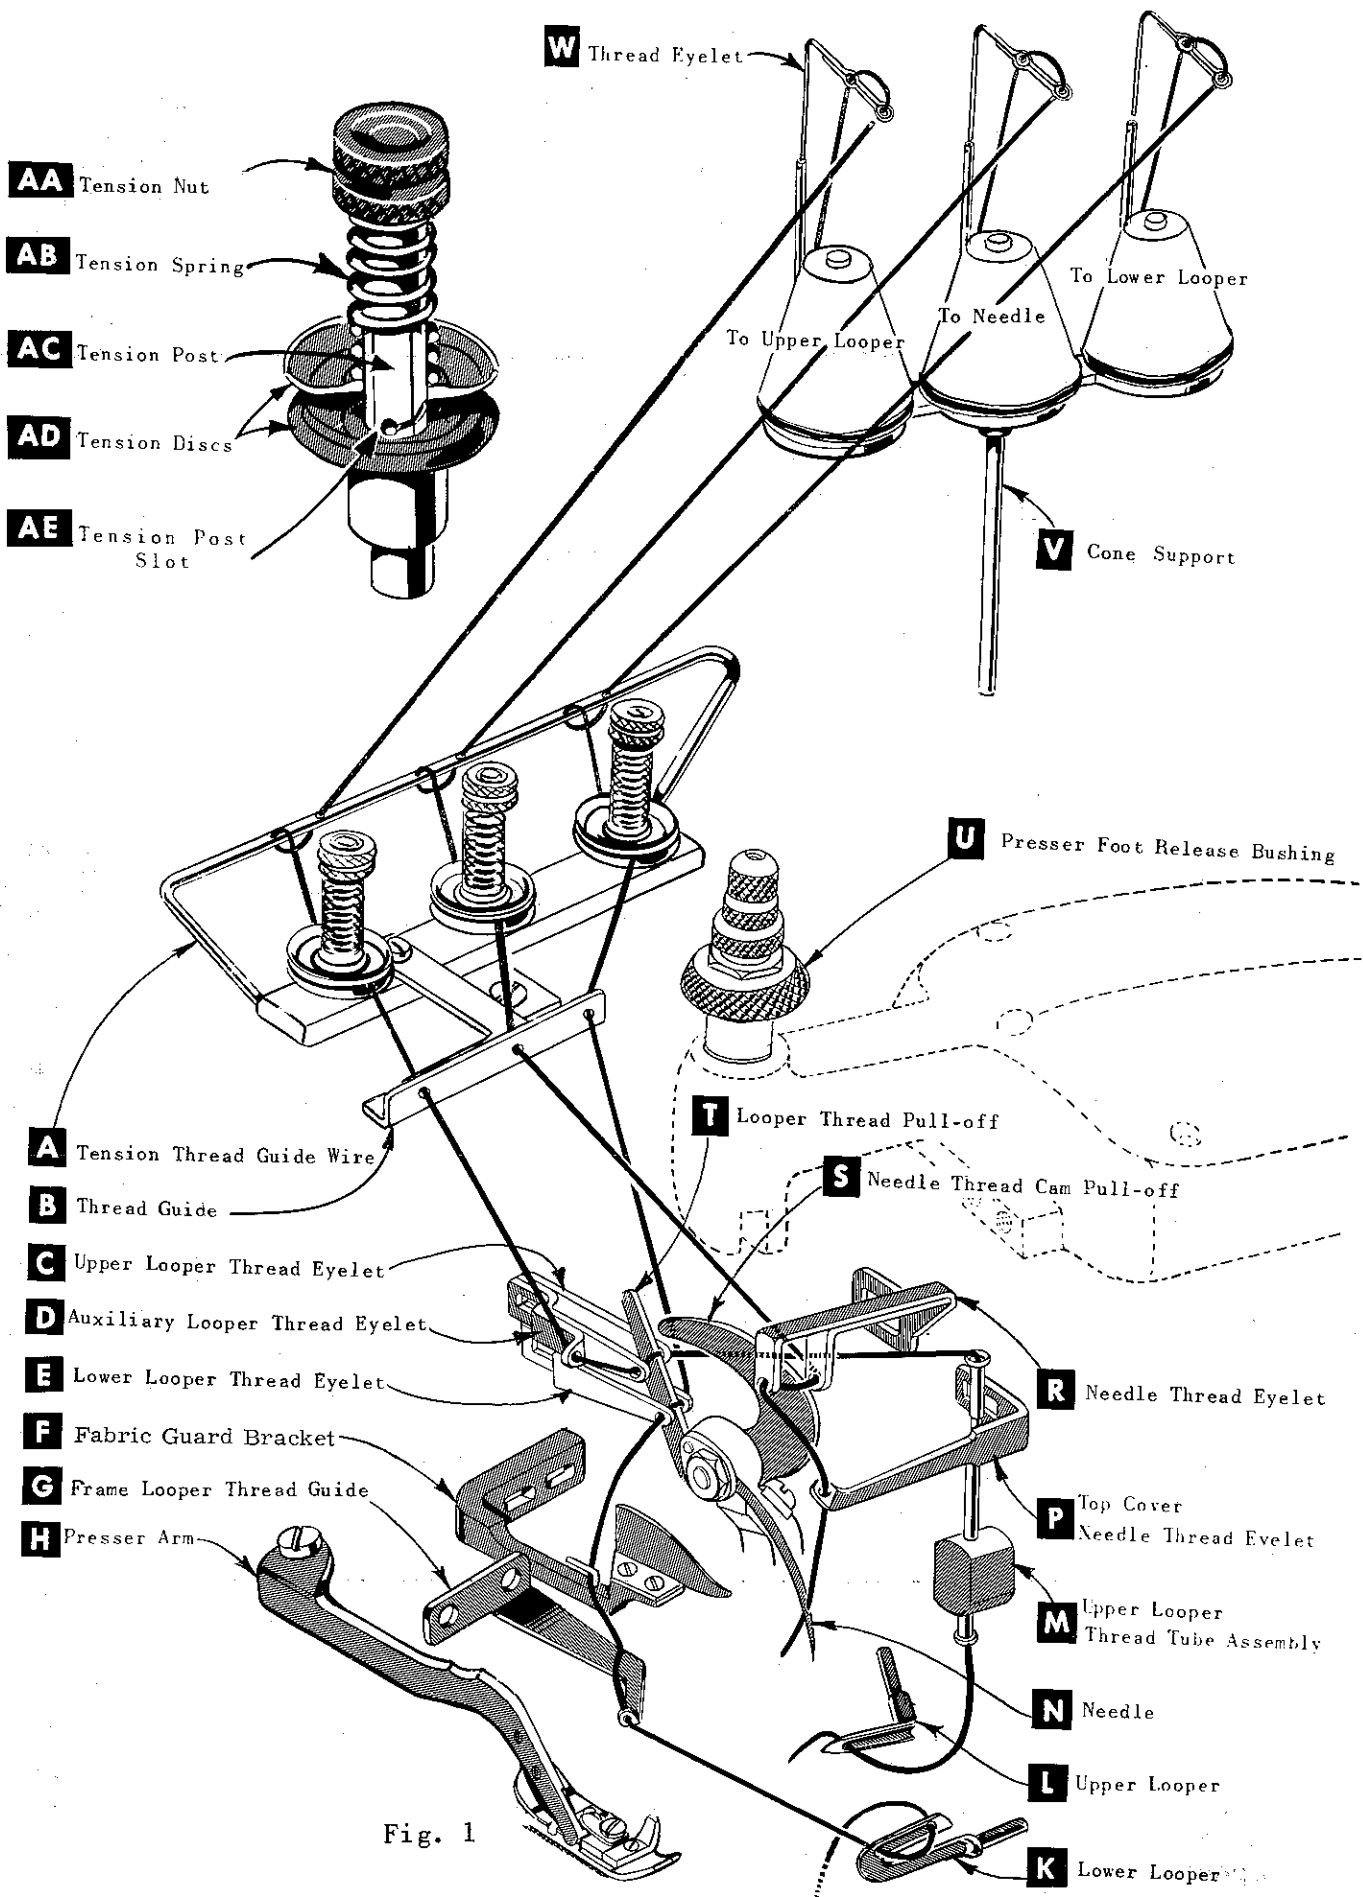

Fig. 1
Release pressure on presser foot by turning presser foot release bushing (U, Fig. 1) and swing presser arm (H) out of position. Turn handwheel in operating direction until needle is at its lowest point of travel. Using hexagonal socket wrench No. 21388 AU furnished with machine, loosen needle clamp nut about 1/4 turn. Again turn handwheel until needle is at high position; withdraw needle.
After thread comes from cone on thread stand (V, Fig. 1), it is brought up through back thread eyelet, then down through front thread eyelet (W). Next it is threaded through each pair of holes in tension thread guide wire (A), down right hand hole and up through left hand hole. Then thread continues between tension discs (AD), through slot (AE), and on through thread guide (B).
Only parts involved in threading are shown in threading diagram (Fig. 1). Parts are placed in their relative positions for clarity.
Double end of thread and lead it through both eyes of lower looper thread eyelet (E, Fig. 1) from right to left. Note: thread must pass in front of looper thread pull-off (T). Lead thread behind fabric guard (F) and through both holes of frame looper thread guide (G). Turn handwheel in operating direction until heel of lower looper (K) is all the way to the left; then thread through both eyes from left to right. Left eye of lower looper can be threaded easily if tweezers are in left hand.
Turn handwheel in operating direction until needle (N, Fig. 1) is at its highest position. Insert needle thread from right to left, through both eyes of needle thread eyelet (R), under neck of top cover casting; then down through hole in top cover needle thread eyelet (P). Thread needle from front.
The amount of tension on needle and looper threads is regulated by three knurled tension nuts (AA, Fig. 1). Tension on threads should be only enough to secure proper stitch formation.
Be sure machine is threaded according to threading diagram (Fig. 1, page 7). With thread tensions light, set looper thread eyelets (C & E) about horizontal and in the middle of their front to back locations. Operate machine slowly, without presser foot in place, to make sure that chain forms and moves off the tongue freely. Swing presser foot into position, insert material, and sew slowly.
While sewing on material, check needle thread control as follows: Usually all needle thread is drawn on needle down stroke. At top of needle stroke, thread should be just tight enough to feed chain off stitch tongue. Stitch tends to pull down slightly if excessive thread is pulled on the up stroke. With needle at bottom of stroke, position needle thread eyelet (R, Fig. 1) so that needle cam pull-off (S) just contacts needle thread. It is desirable to adjust the needle thread pull-off eyelet well forward (toward the operator) to delay slightly, the tightening of the needle thread.
With material under presser foot, set lower looper thread eyelet (E, Fig. 1) back far enough so thread is a little slack when looper thread pull-off (T) reaches its most rearward position. Looper thread pull-off (T) is set about 1/8 inch distance behind needle thread cam pull-off (S). Frame looper thread guide (G) should be set with its left hand eyelet approximately 1/8 inch right of lower looper (K) heel eyelet at the time lower looper is at extreme left end of its travel.
Before proceeding to adjust upper looper thread eyelet (C, Fig. 1) balance all three tensions to give a normal appearing stitch. Moderate change in these tensions will not markedly effect the purl.
To move the purl more under the edge, both looper thread eyelets (C & E, Fig. 1) should be raised keeping the same amount of pull-off. Usually it is better to have slightly more pull-off on upper thread than on lower thread.